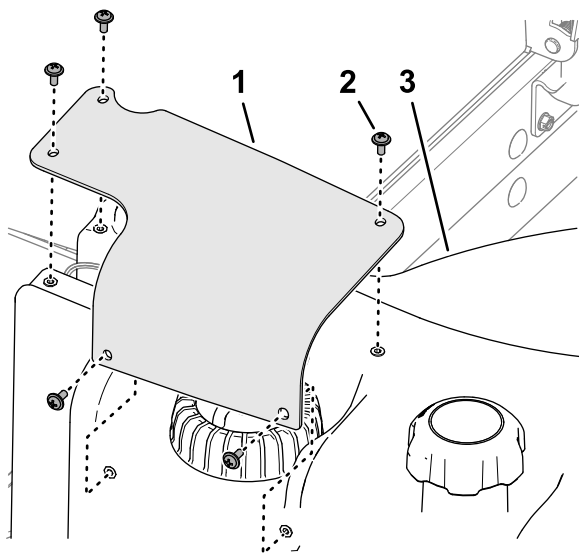

Figure 95
7. Align the holes in the fuel-sender cover with the holes in the fuel tank, and secure the cover to the tank with the 5 Phillips-head screws (Figure 95).